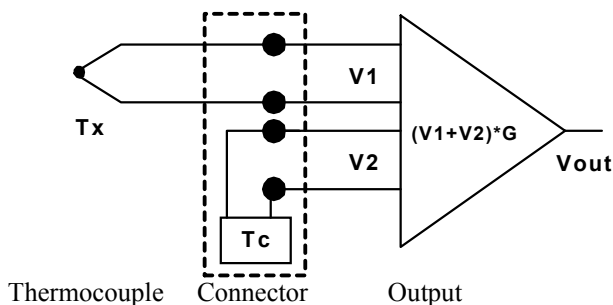

Figure 1
Modern signal conditioning modules have electronically resolved this situation and, in addition, have linearized the thermocouple voltages. These conditioning modules provide the end-user with a linear output signal, scaled to either volts per °C (°F) or amps per °C (°F). The concept of electronically referencing thermocouple measurements to zero °C is shown in Figure 1. This technique is known as “cold junction compensation” or CJC.
In Figure 1, the voltage V1 is Seebeck’s thermocouple voltage generated by the difference between the unknown temperature (Tx) and the connector temperature (Tc), as shown in Equation 4. The connector temperature (Tc) is measured with a non-thermocouple sensor (diode, RTD, etc.) and the corresponding sensor voltage (V2) is electronically scaled to represent the same Seebeck thermocouple voltage (referenced to 0°C) that a thermocouple would read if used to measure Tc as indicated in Eqn. 5. This “V2 scaling” is matched to the same type thermocouple as used to measure Tx.
Equation 6 shows the thermocouple voltage (V1) has two parts, both of which are referenced to Tice. The voltage term, $S*(Tx - Tice)$, is the standard look-up table value needed for determining the unknown temperature (Tx). The term, $S*(Tc - Tice)$, is the voltage obtained if connector temperature (Tc) were measured with the same type thermocouple as used to measure Tx. Recall that V2 has been electronically scaled so that V2 equals this voltage, $V2 = S*(Tc - Tice)$. In Figure 1 if $G = 1$, then;
To achieve linearity, the gain (G) in Figure 1 and Equation 7 is internally programmed to selectively scale the voltage function $S^*(T_x - T_{ice})$ to be a linear function of temperature with the units of volts per °C (°F) or milliamps per °C (°F). For more details, examine AN505 “Hardware Linearization of Non-linear Signals” on Dataforth’s website application note section, Reference 9. While on this web site, take a few moments to examine all of Dataforth’s complete line of thermocouple signal conditioning modules.